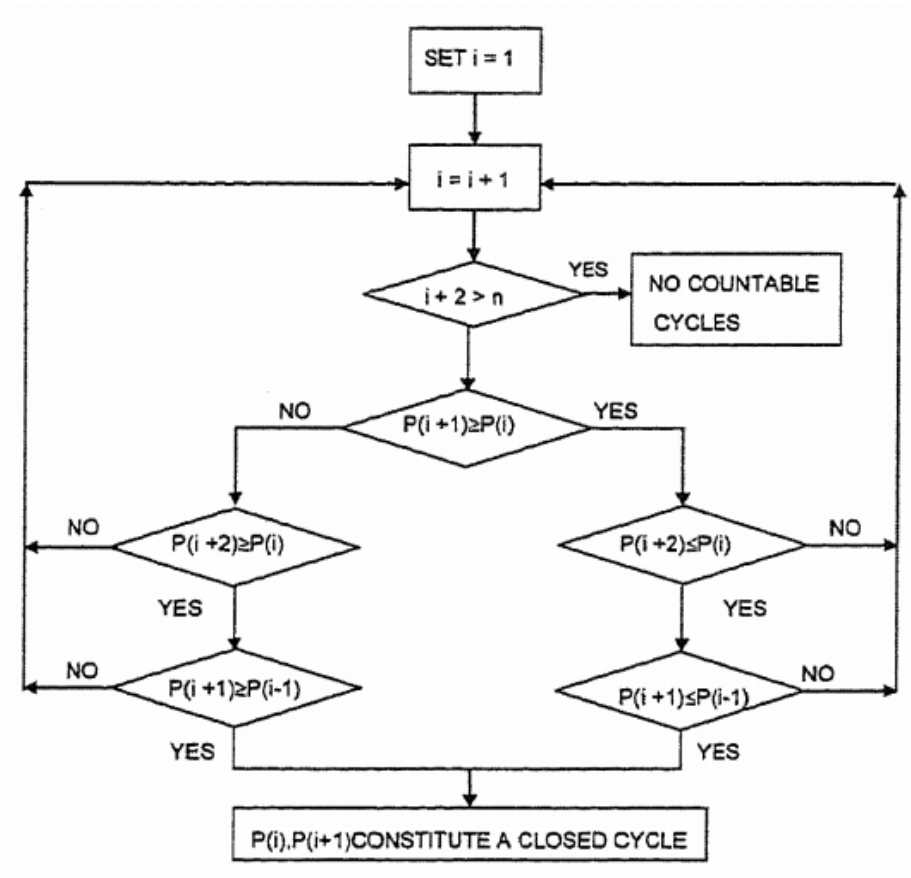

Figure 11 - Rainflow algorithm
A mathematical description of the rainflow counting algorithm is found in the literature (11) and shown in figure 11: